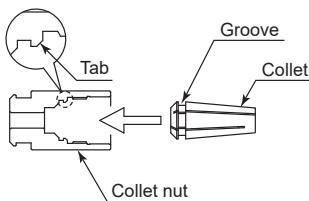
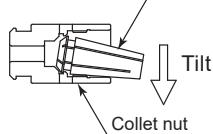

Fig. 3
Fig. 4
(1) Hold the collet nut in one hand, and install the collet. (Fig. 3)
If the collet is difficult to install, tilt the collet to one side when inserting it, so that the tabs can more easily be seated in the groove. (Fig. 3, Fig. 4)